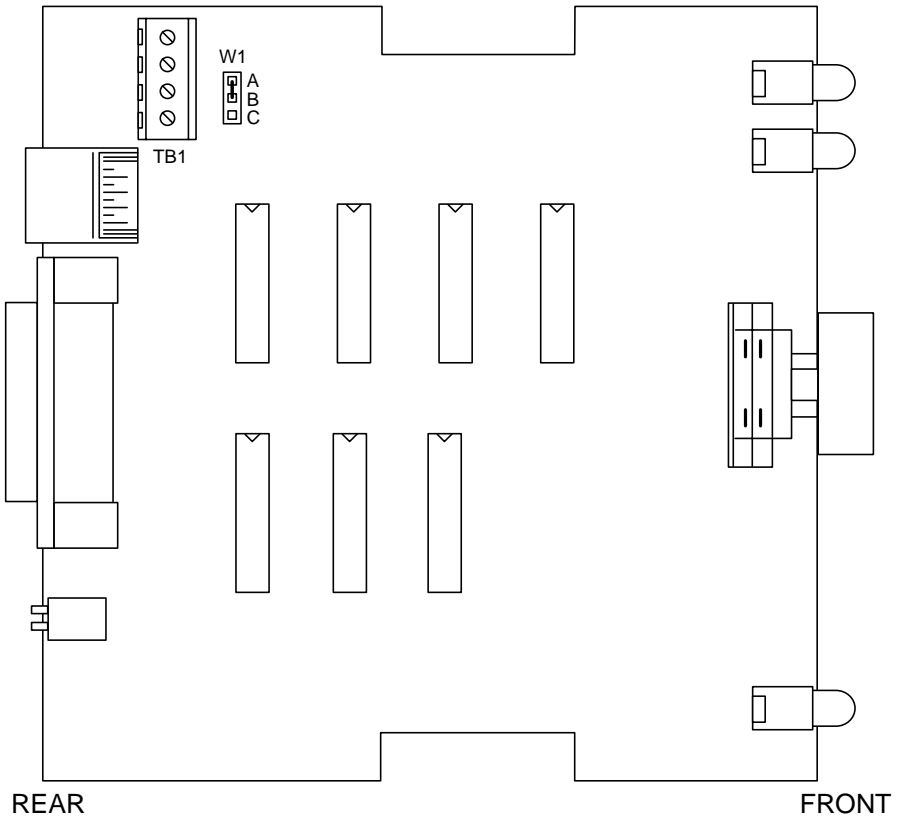
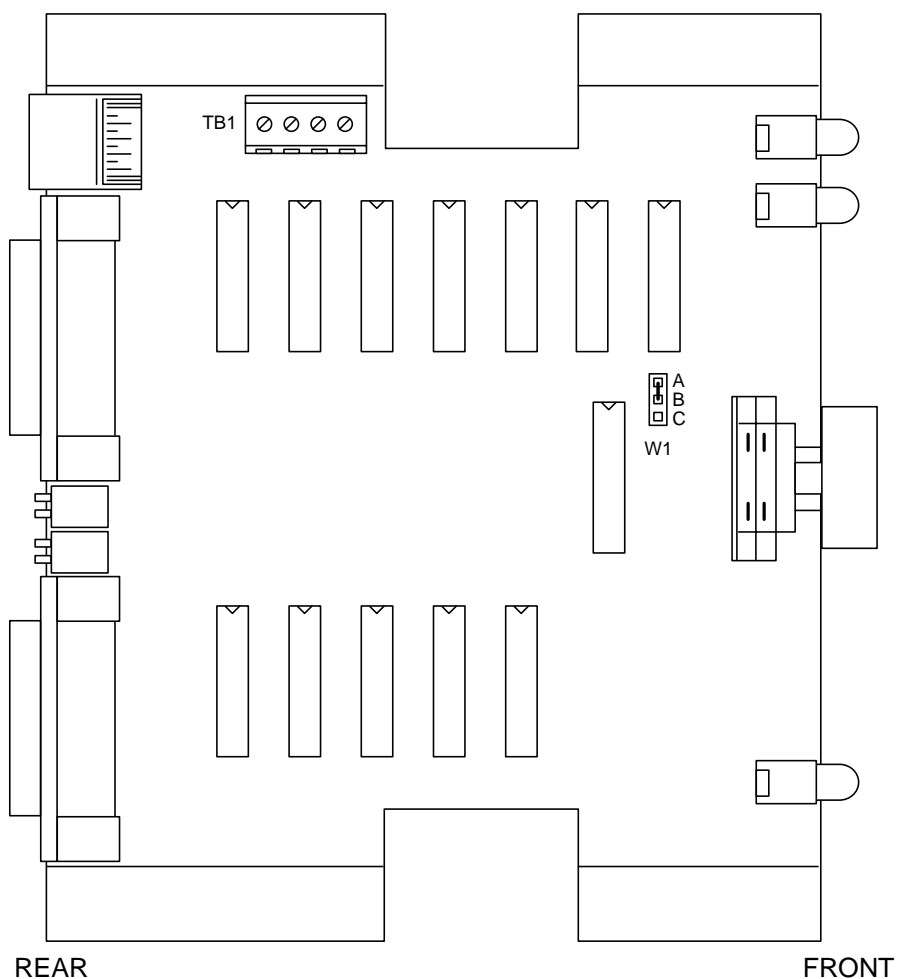

Figure 3-1. PCB layout of the SW980 models.
Figure 3-2. PCB layout of the SW981 models.
2. Find jumper W1 (for SW980 or SW981 units) or jumpers W2 and W3 (for SW982 units) on the Switch's circuit board. Refer to **Figure 3-1** on the next page if your unit is an SW980 model, to **Figure 3-2** on page 11 if your unit is an SW981 model, or to **Figure 3-3** on page 12 if your unit is an SW982 model. Set the jumper(s) as appropriate for your application:
3. If you will be performing remote switching using a cable that is unterminated at the Switch end, attach the cable's wires to the appropriate positions of the 4-position terminal block labeled "TB1" (refer to **Figures 3-1** through **3-3** on pages 10 through 12 and to **Tables 4-1** and **4-2** on pages 20 and 21). Connect the ground of the remote driver, or one side of the dry contact, to (either of) the terminal block's ground pin(s). Connect the remote driver's output(s), or the other side of the dry contact, to the terminal block's input pin(s).